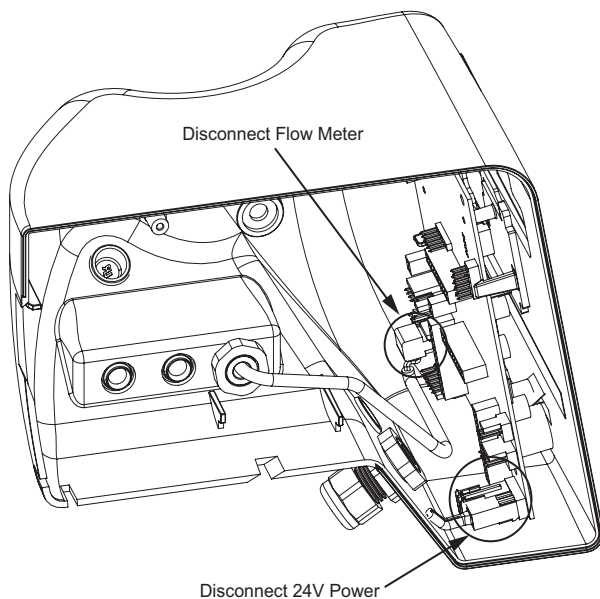

Figure 56. Remove flow meter and 24V connections.
2. Remove the 24V power supply wire harness and flow meter connectors from the circuit board. See Figure 56.